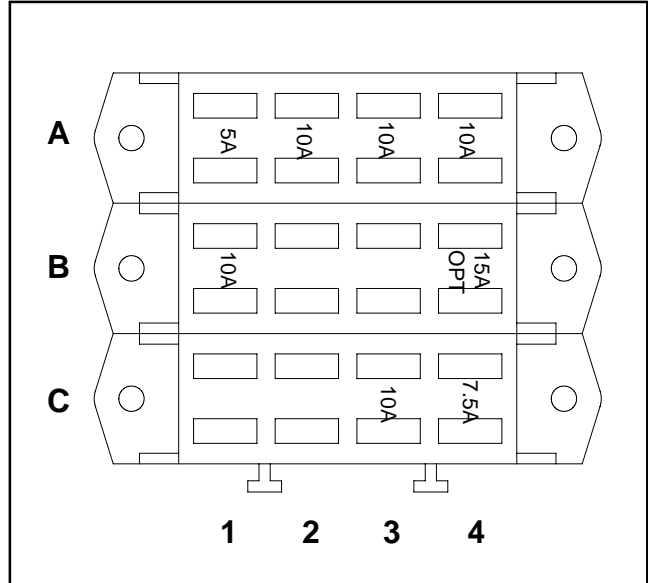

Figure 13
The fuses are held in three (3) fuse blocks. Use Figures 13 and 14 to identify each individual fuse and its correct amperage. Each fuse holder has the following functions and wire connected to it.